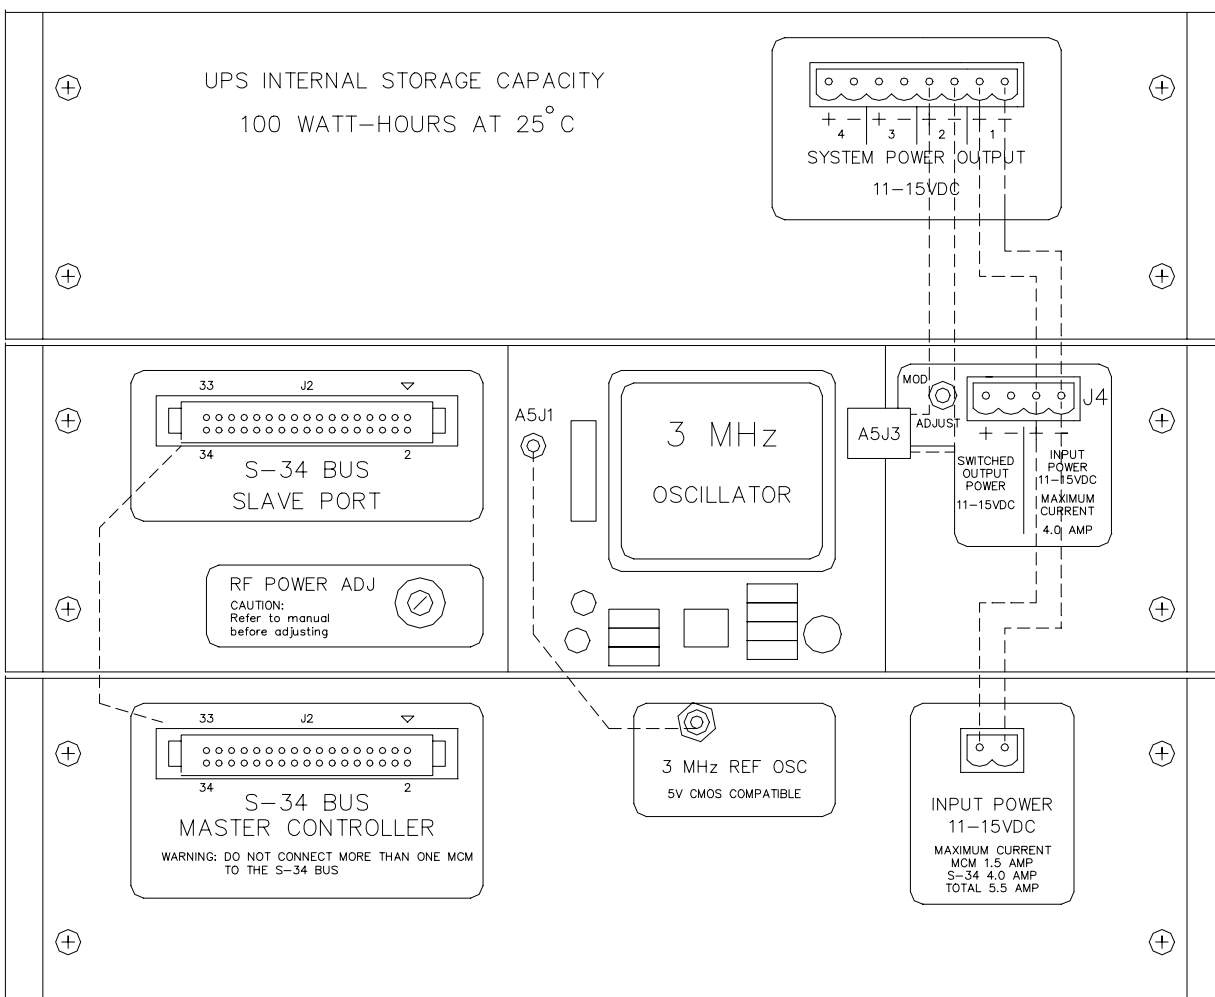

Figure 8-9 GOES Assembly Rear Panel Interconnections
9. Inspect the rear panel of the new GOES Assembly to verify that all cable connectors identified in Figure 8-9 are tight and properly connected.